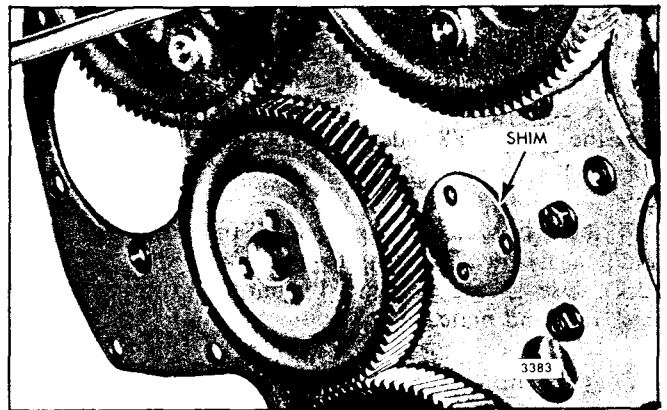

Fig. 2 - Location of Shim
3. If the flywheel housing has an integral cast hub, install a flywheel housing-to-end plate shim (.015 " thick). Use grease to affix the shim to the cylinder block rear end plate (Fig. 2).